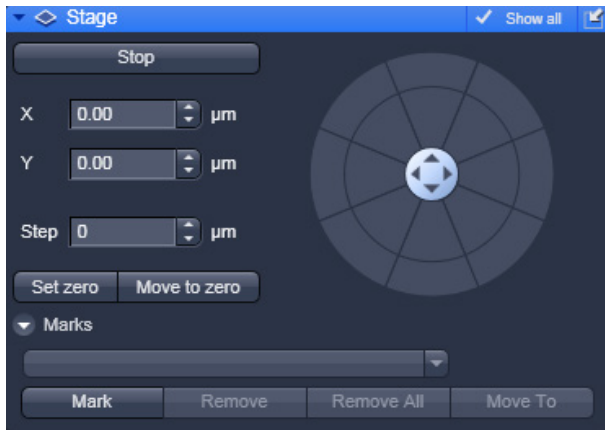

Fig. 271 Stage panel
- Click on the **Stage** tool tab to open the **Stage** panel (Fig. 271).